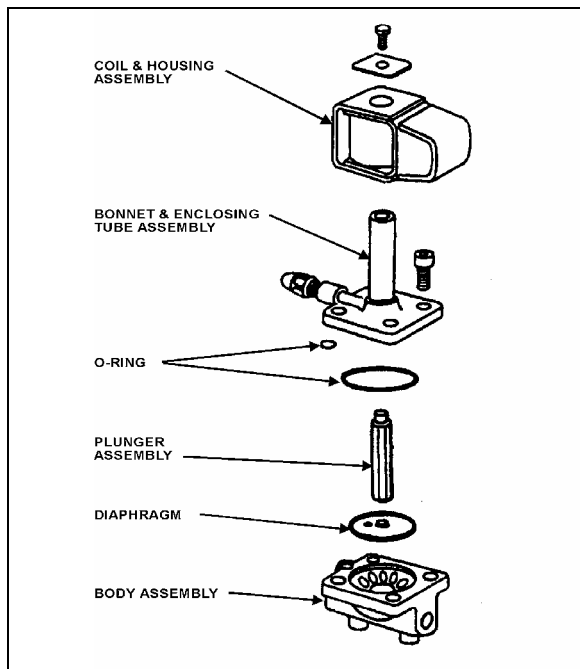

FIGURE 33: REFRIGERANT SOLENOID VALVE 22044
3. Remove the four socket head screws which hold the body and bonnet together (Fig. 33).